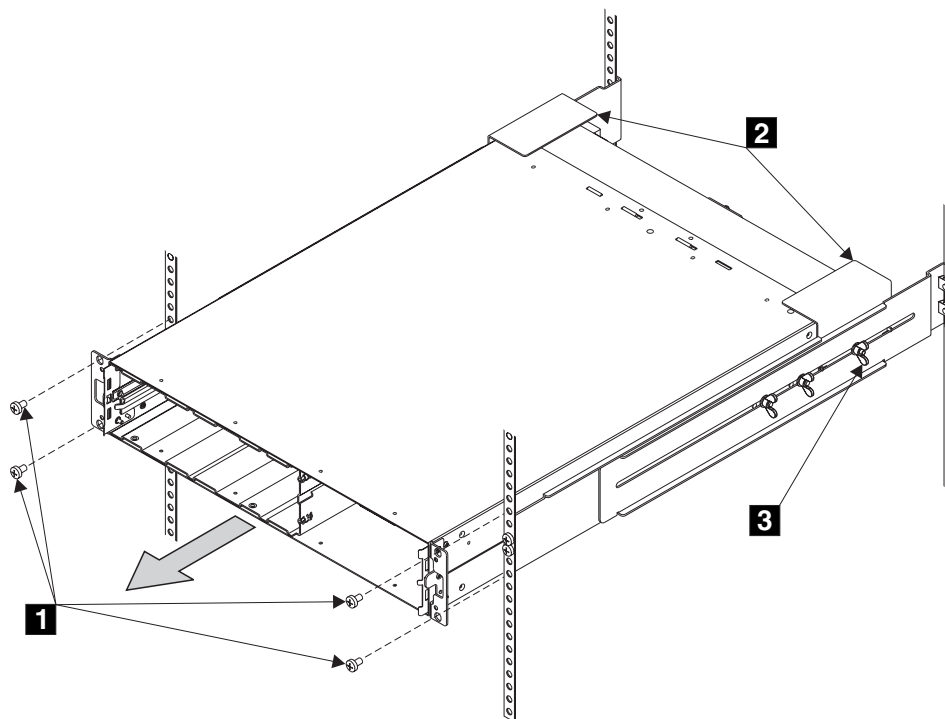

Figure 110. Removing the uninterruptible power supply
7. At the front of the uninterruptible power supply, unscrew the mounting screws, **1** in Figure 110 on page 169.